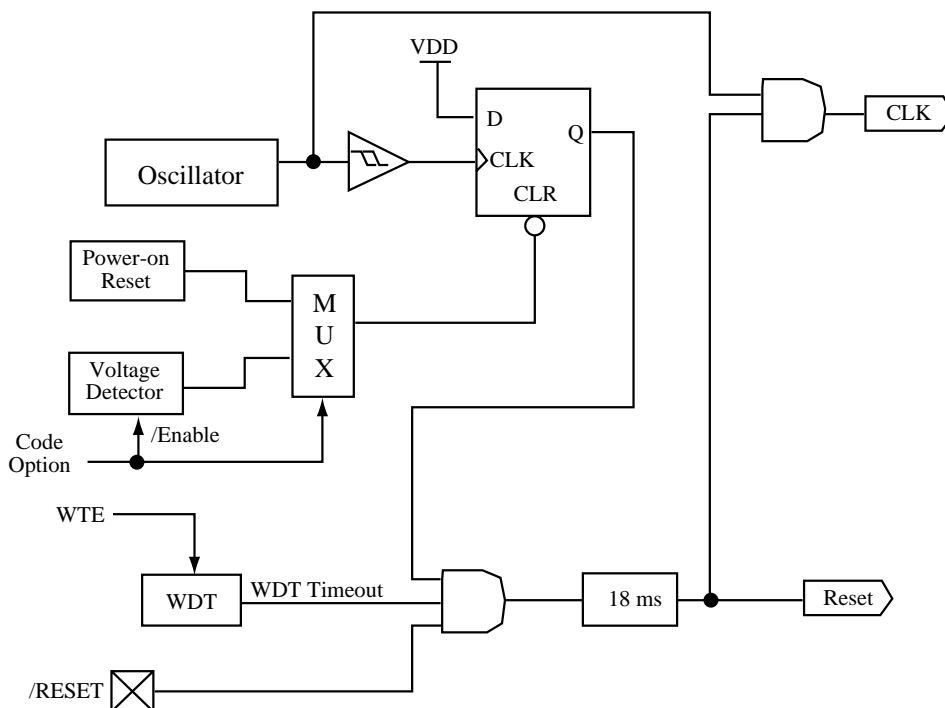

Fig. 9 Block diagram of Reset of controller
- (1) Power-on reset
- (2) /RESET pin input "low", or
- (3) WDT time-out (if enabled).
Note that only power-on reset, or only voltage detector in Case(1) is enabled in the system by CODE option bit. Refer to Fig. 9. The device will be kept in a RESET condition for a period of approx. 18ms (one oscillator start-up timer period) after the reset is detected. Once the RESET occurs, the following functions are performed.